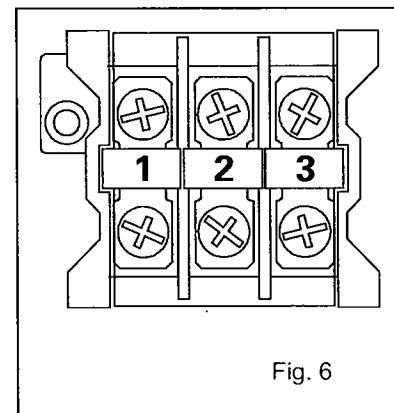

Fig. 6
13. Connect the power cord of the recorder to the terminal as shown in Fig. 6.